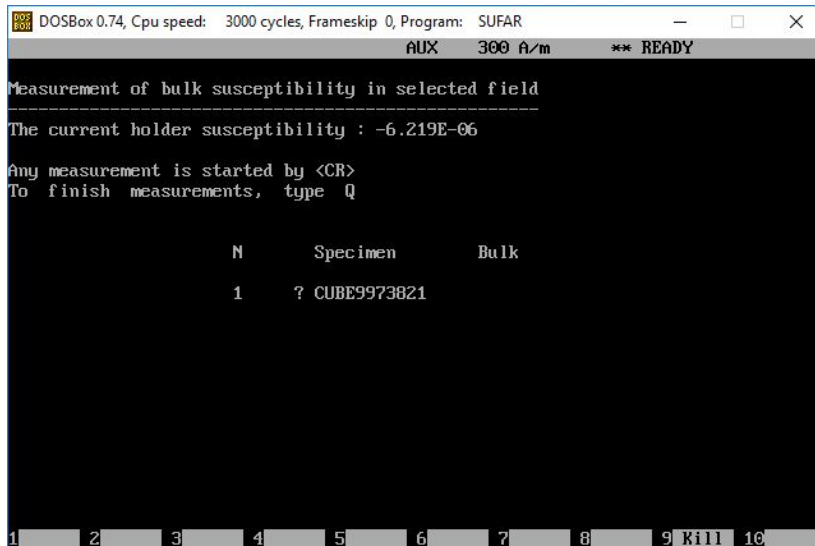

Figure 26. Bulk Susceptibility Measurement Window
6. Enter the Specimen name at the prompt (**Figure 26**).